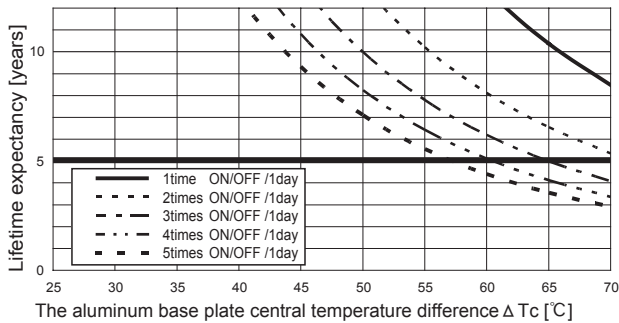

Fig.8.1 Lifetime expectancy against rise/fall temperature difference
■ Product lifetime expectancy depends on the aluminum base plate central temperature difference (ΔT_c) and number of cycling in a day is shown in Fig.8.1.